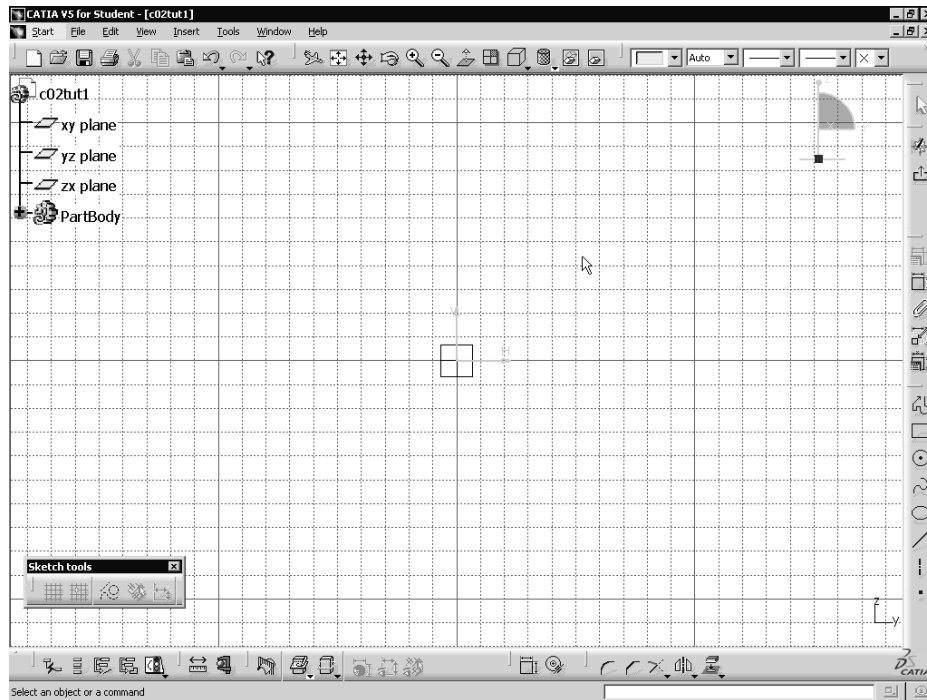

Figure 2-35 The *Sketcher* workbench screen
6. To invoke the **Sketcher** workbench, choose the **Sketch** button from the **Sketcher** toolbar and then select the yz plane as the sketching plane. The **Sketcher** workbench screen will be displayed, as shown in Figure 2-35.